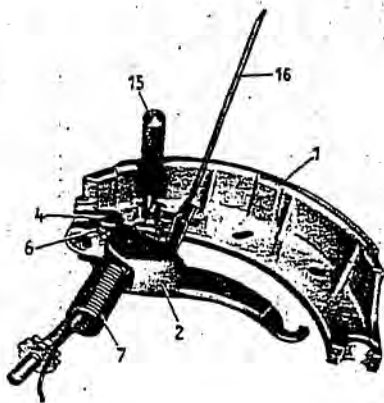

Fig. 42-9/10
9. Attach the brake lever (2) with the push rod (3) and the return springs (6) and (7) to the rear brake shoe. Make sure that the return spring (6) is correctly positioned (see Figs. 42-9/9 and 42-9/10).
10. Attach the return spring (7) to the brake shoe (1) and lock by means of the retaining pin (15) (Fig. 42-9/10).
**Note:** Instead of the retaining pin (15) also a drift can be used for locking the return spring.